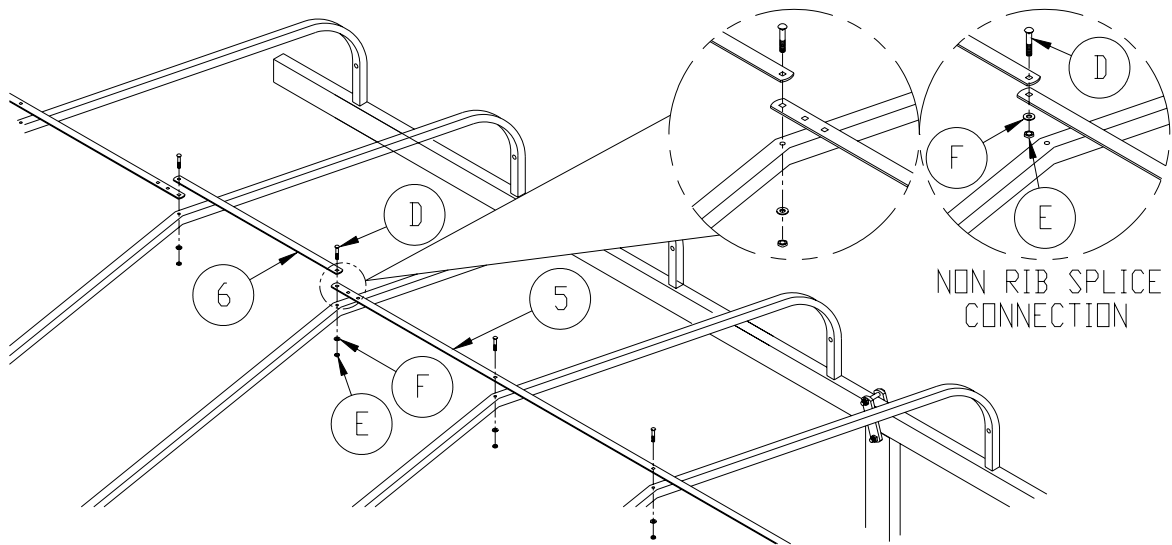

Figure 2-6.
11. Refer to **Figure 2-6**. Assemble (2) end and (1) mid center band on top of the ribs with hardware shown. This will provide a uniform lay of the fabric. At center band, splice connections that do not meet at a rib. Use shorter hardware shown.